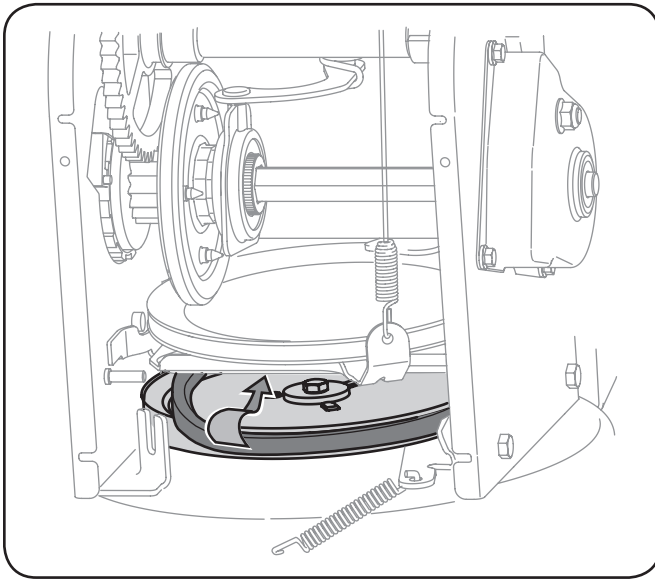

Figure 8-5
6. Remove the belt from around the auger pulley, and slip the belt between the support bracket and the auger pulley. See Fig. 8-5.